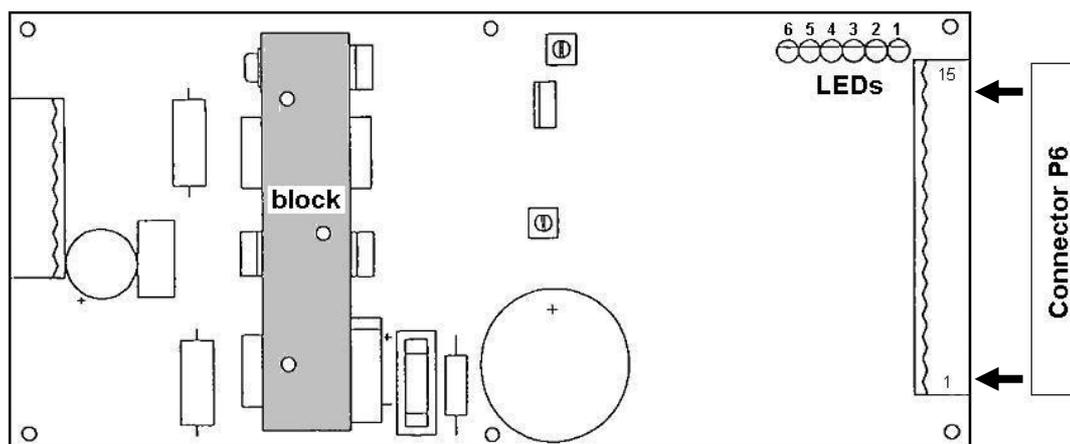

Figure III-5 : Source board
4. After the acquisition, verify if any red LED is lit on the source board (see Figure III-5). If yes, the problem is due to the source. Furthermore there is a reset problem (Conductivity of the reset cable or CPU ~~removed~~ no Transport lock removed Transport lock)
6. Put some heat-conductive paste on the front surface of the big metallic block on the source board (→p. 28 Figure III-5, the mentioned surface is painted grey)
2. Check the LED on the source board (→ Figure III-5).